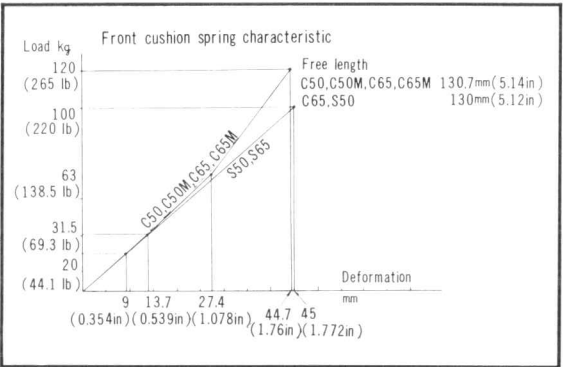

Figure 4-12. Characteristic of front cushion spring
- (1) Inspect for oil leaks from the damper as it will have an adverse effect on the dampening characteristics as well as producing undesirable noise.
- (2) Front cushion spring (Fig. 4-12)
- (3) Front fork piston diameter